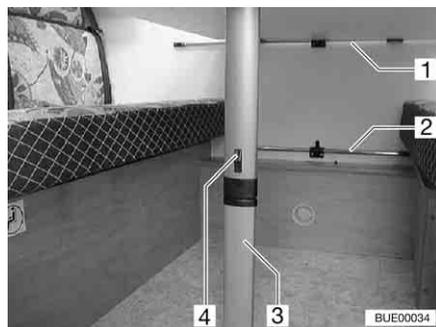

Fig. 71 Suspension table with folding leg
- Move the locking device (Fig. 71,4) toward the table-top.
- Fold the lower section of the foot (Fig. 71,3) under by 90°.
- Detach the suspension table from the upper attachment rail (Fig. 71,1).
- Attach the suspension table to the lower attachment rail (Fig. 71,2) and rest it onto the table leg hinge.